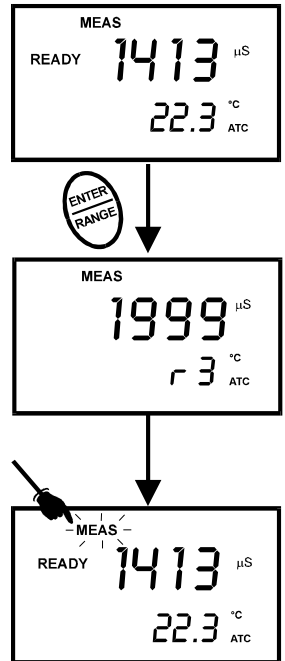

Figure 22 - Manual Ranging
- 1 To select the desired measuring range, press the **RANGE** key while in Measurement mode. The first range will appear on the display and the “MEAS” indicator blinks. See Figure 22.